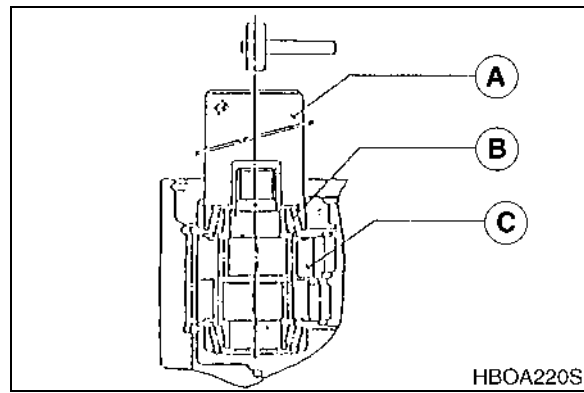

Figure 100
1. Tap lightly together with press metal fitting (A, Figure 100) and hammer, the outer wheel of conical roller bearing (B) (22) that is attached to crankshaft (9) of RV gear assembly (C).
2. Install the thinnest shim (13) into hold flange (3), assemble snap ring (20) into snap ring groove.
4. Measure clearance by inserting thickness gage between snap ring (20) and shim (13).